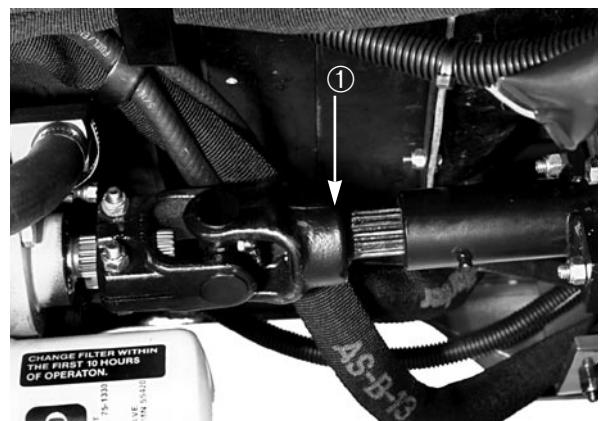

Figure 19
1. Loosen and remove the capscrews securing the drive shaft to the engine. Loosen the capscrews clamping the drive shaft to transmission (Fig. 19). Remove the drive shaft.
5. When towing is completed, reinstall the drive shaft as shown in Figure 19. (The splines are designed to allow assembly only when the two halves of the shaft are properly oriented.)